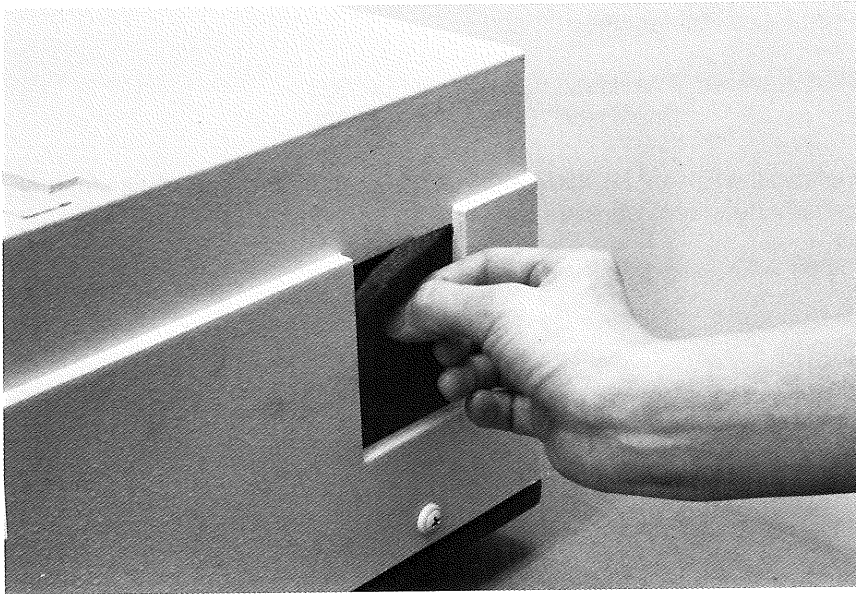

Figure 8-20.
2. Remove the air filter by pinching it in the middle and pulling it away from the instrument. See Figure 8-20.